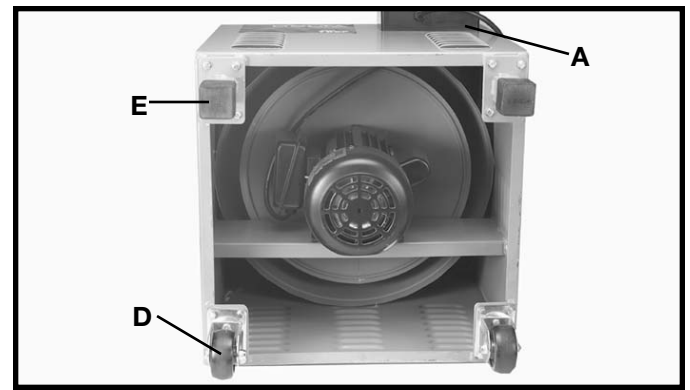

Fig. 7
2. Attach the table feet (E) Fig. 2, to the bottom of the motor case, on the same side as the ON/OFF switch (A) Fig. 7, is located. Align the holes in the table feet (E) Fig. 7, with the holes in the bottom front of the motor case. Insert a 1/4-20x5/8" hex flange screw through the hole in the table foot and the hole in the motor case. Thread a 1/4-20 flange nut onto the 1/4-20x5/8" hex flange screw and tighten securely. Repeat this process for the 7 remaining holes in the table feet and motor case, as shown in Fig. 7.
3. Attach the casters (D) Fig. 2, to the bottom of the motor case. Align the holes in the casters (D) Fig. 7, with the holes in the bottom back of the motor case. Insert a 1/4-20x5/8" hex flange screw through the hole in the caster and the hole in the motor case. Thread a 1/4-20 flange nut onto the 1/4-20x5/8" hex flange screw and tighten securely. Repeat this process for the 7 remaining holes in the casters and motor case.